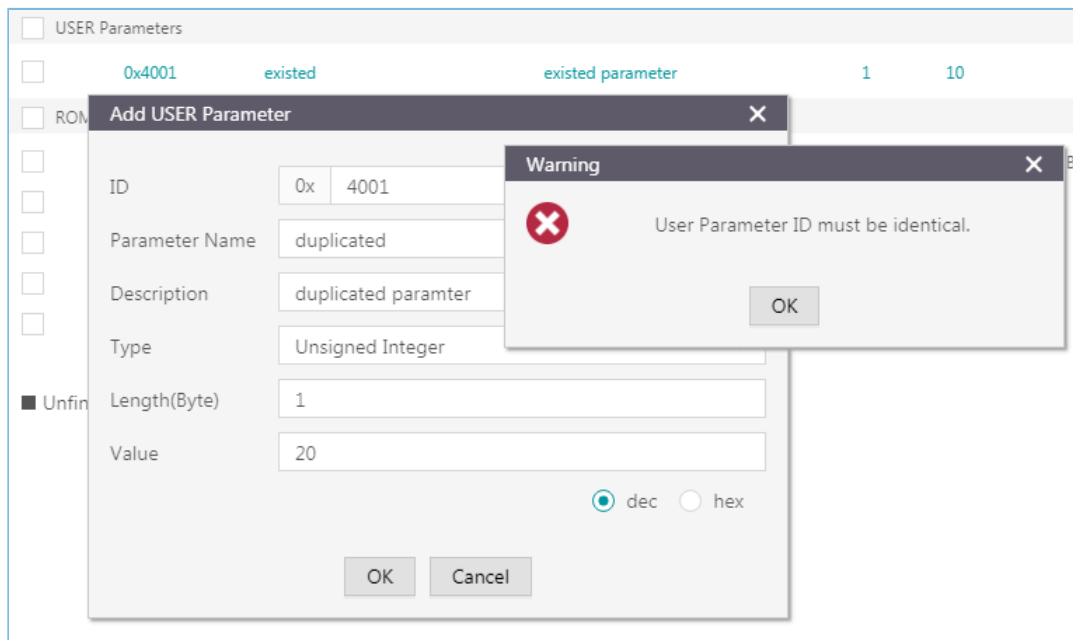

Figure 3-39 Failure to add a user parameter due to an identical parameter ID
- You cannot input a parameter ID that is identical with those listed in the **Parameters** pane. Otherwise, a warning dialog box pops up, as shown in Figure 3-39.